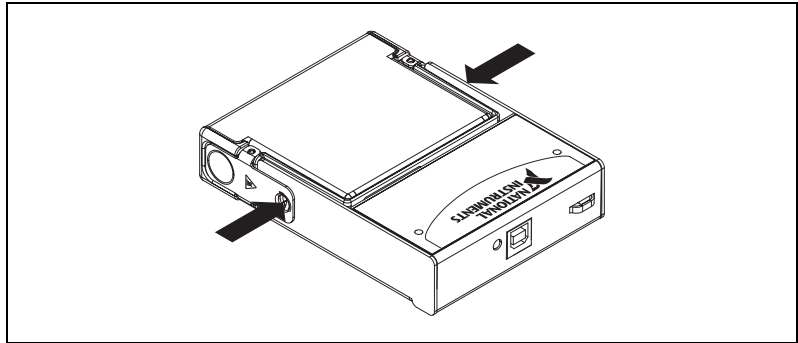

Figure 6. Locking Module into Place
- Press firmly on the connector side of the NI 9265 module until the latches lock the module into place, as shown in Figure 6.